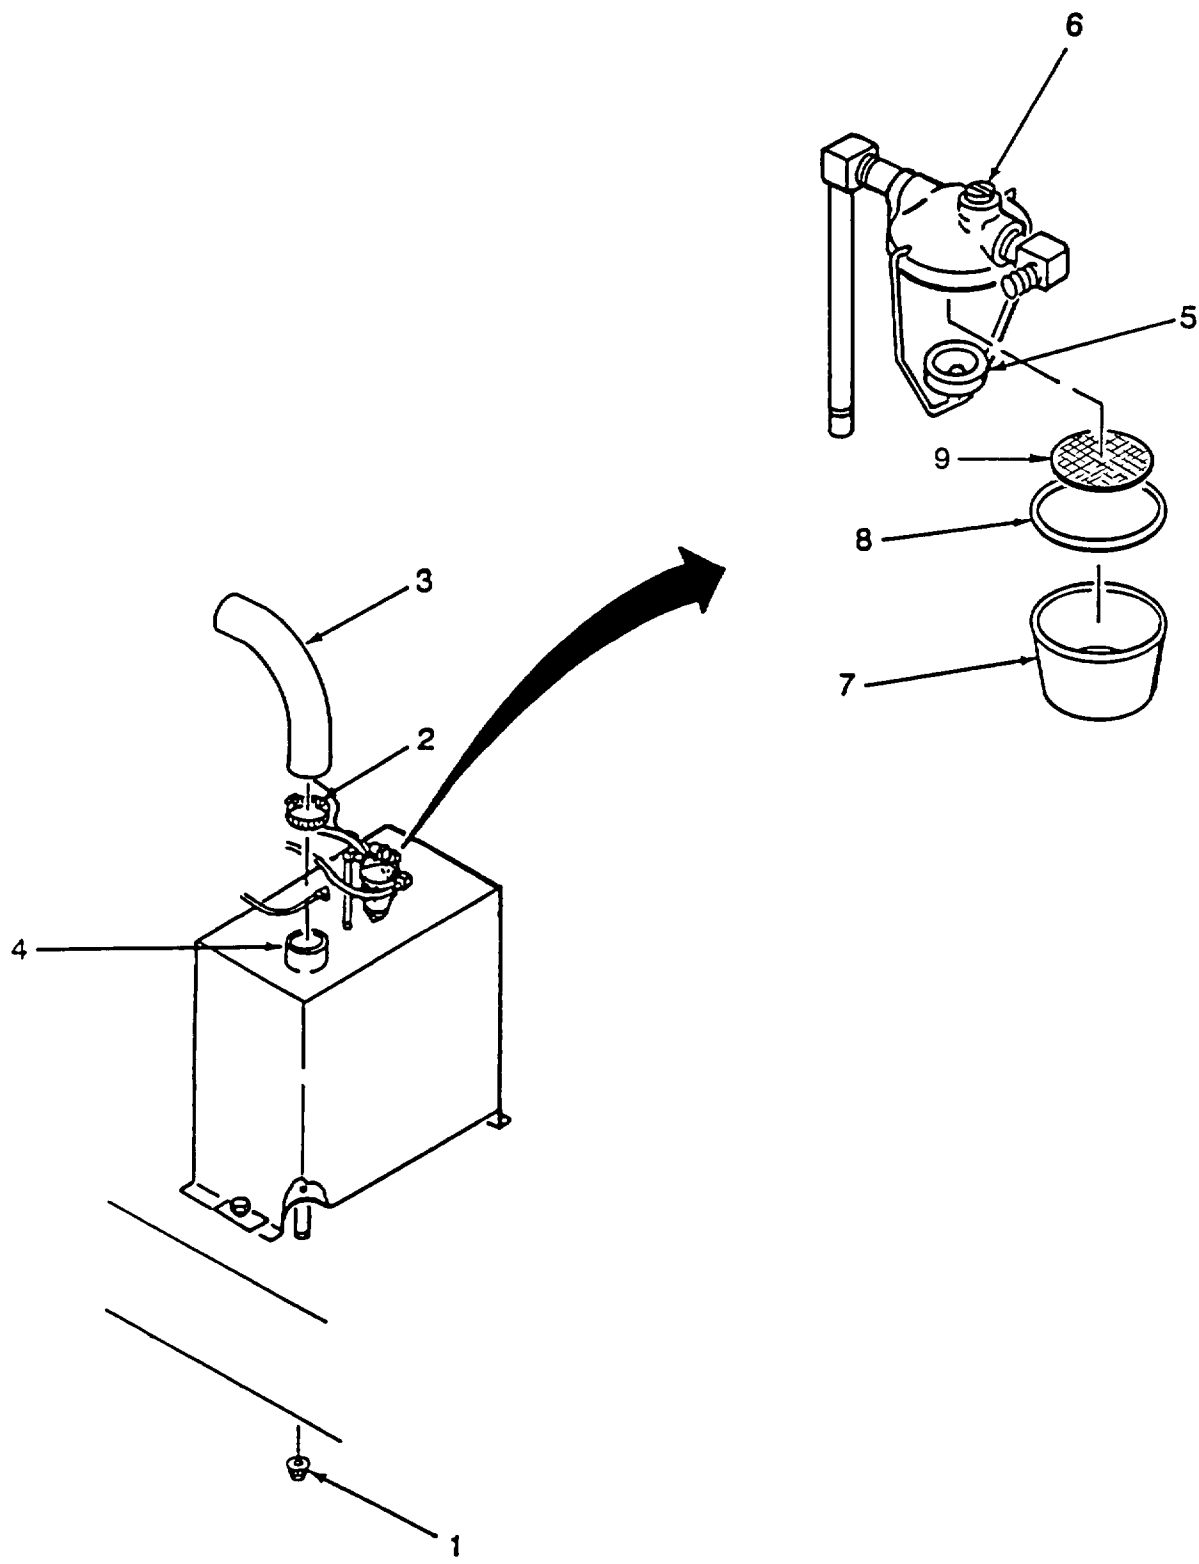

Figure 4-9. Fuel Tank Assembly
a. Service. (Refer to Figure 4-9.)
(1) Drain diesel fuel into suitable container by removing cap (1).
(2) If diesel fuel appears contaminated or contains water, or if rough or erratic engine operation has been noticed, clean system thoroughly.